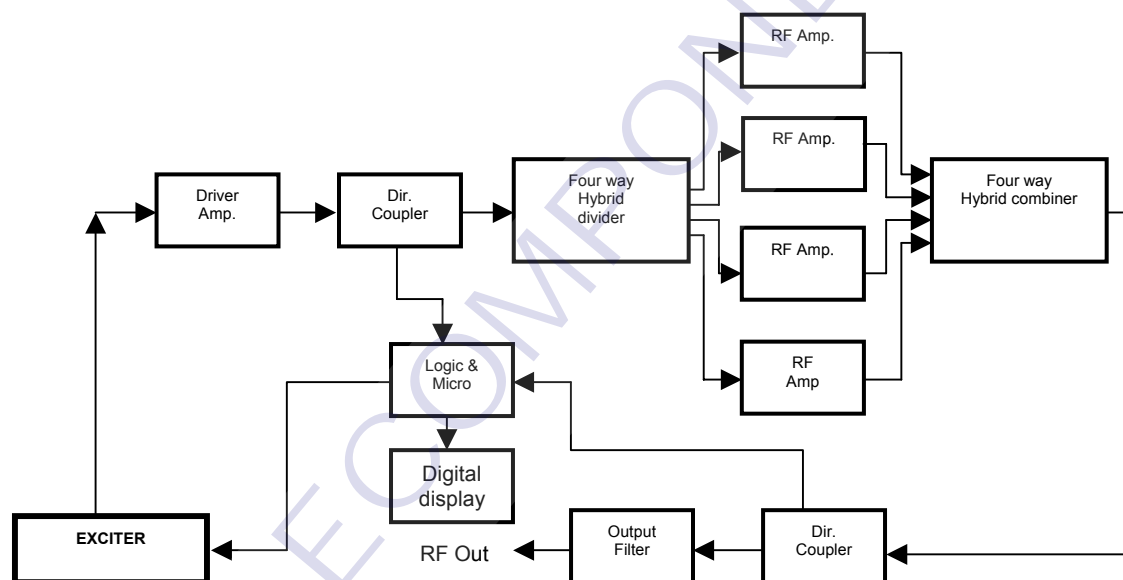

Figure 3: ETL0470 RF Amplifier blocks diagram
- The ETL0470 UHF TV RF Amplifier blocks diagram is shown in figure 3.